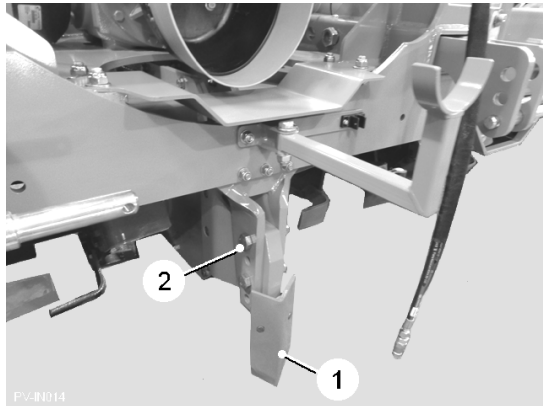

Fig. 8
The centre divider (item 1, fig. 8) is designed to split the soil making it flow through the rotors and not between the inner side plates. The tine mounting is adjustable for depth by resetting the bolts (item 2, fig. 8). The tine point should be set level with the bottom of the rotor blades. Operating with the divider tine removed will result in premature wear of the side plates and to soil in the centre not being properly cultivated.